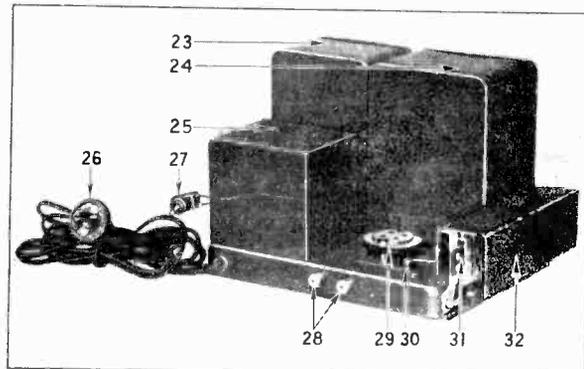

Fig. 5—Top of Socket Power Unit
- Defective power transformer No. 24, Fig. 5.
- Shorted condenser unit No. 25, Fig. 5.
- Open choke No. 23, Fig. 5.